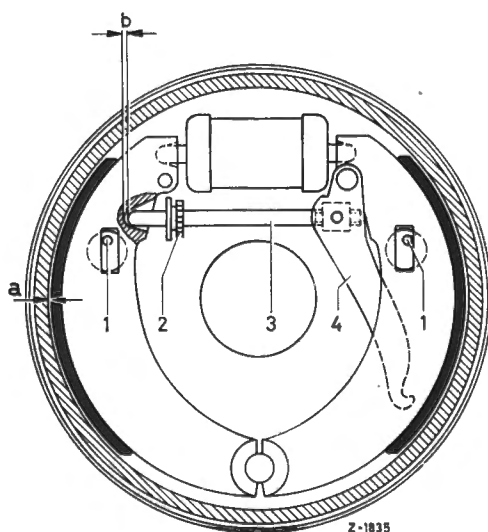

Fig. 42-20/11
If in the case of badly worn linings this adjustment proves insufficient, i. e. if no or insufficient braking effect is produced on the rear wheels, further adjustments must be made on the rear wheel brakes themselves. Before this is done check the service brake for proper adjustment and if necessary adjust it by means of the eccentrics. Then back out the wing nut of the relay lever until the two brake cables for the rear wheel brake are slack. Then adjust the push rod (3) by turning the adjusting wheel (2) until the prescribed clearance "b" between push rod and brake shoe is obtained (Fig. 42-20/11). Although the push rod can be adjusted through the opening in the brake anchor plate, the push rod, **contrary to our previous instructions, should only be adjusted after the brake drum has been removed.**